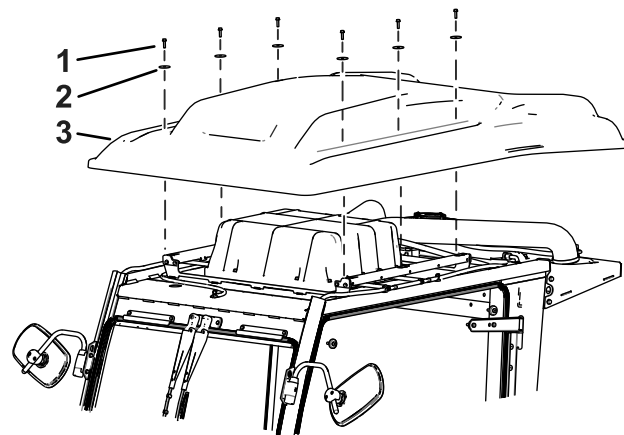

Figure 1
3. Remove the cab roof as shown in Figure 1.